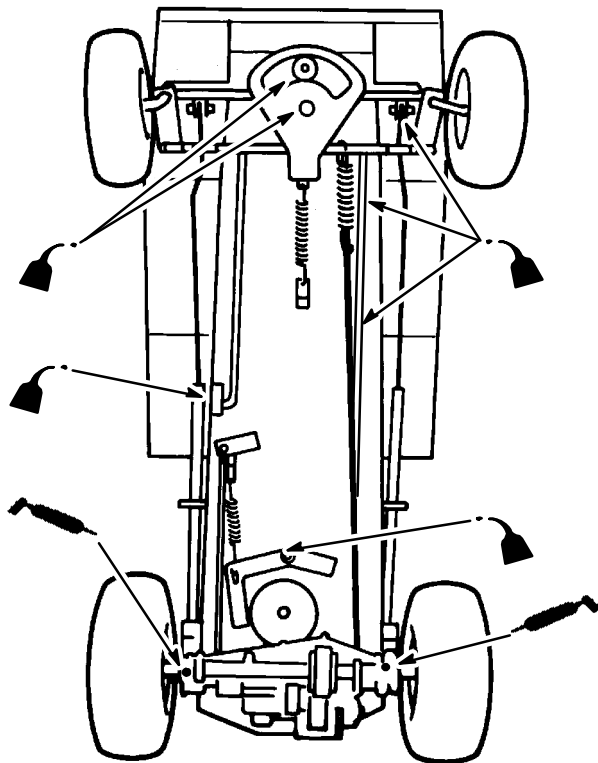

Figure 20
2. Grease the rear axles with one to two pumps of No. 2 general purpose grease. The fittings are located just inside of the rear tires on the bottom of the transaxle (Fig. 20).
1. Oil the pivot points of the steering, drive, brake, clutch, and deck engagement linkage (Fig. 20). Wipe up any excess oil.